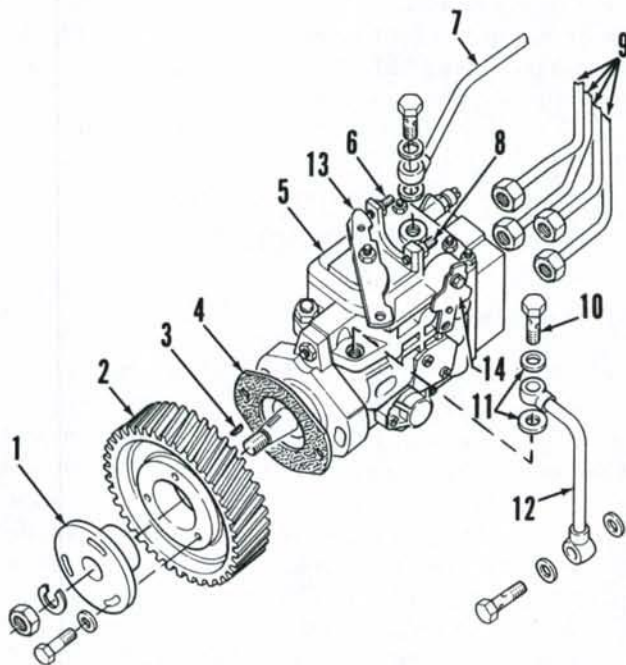

Fig. 59—View of typical fuel injection pump and relative components.
62. LOW AND HIGH IDLE. To adjust the low idle speed, start engine and bring to operating temperature. Move throttle lever to low idle position and make certain that speed control lever (13—Fig. 59) is against low speed screw (6). If not, adjust linkage rod (models without cab) or cable (models with cab) as necessary. Then, loosen locknut and adjust screw (6) until idle speed is 725-750 rpm. Tighten locknut.
63. SHUT-OFF CONTROL. To adjust the shut-off control, pull shut-off knob fully outward. Then, check to see that lever (14—Fig. 59) contacts stop. If not, adjust cable position as required. Push knob fully inward and check to see that lever (14) contacts the pump case. If not, loosen locknut under knob, back off knob slightly and retighten locknut. Recheck to see that shut-off lever (14) contacts stops when knob is fully in run position or fully out in stop position.